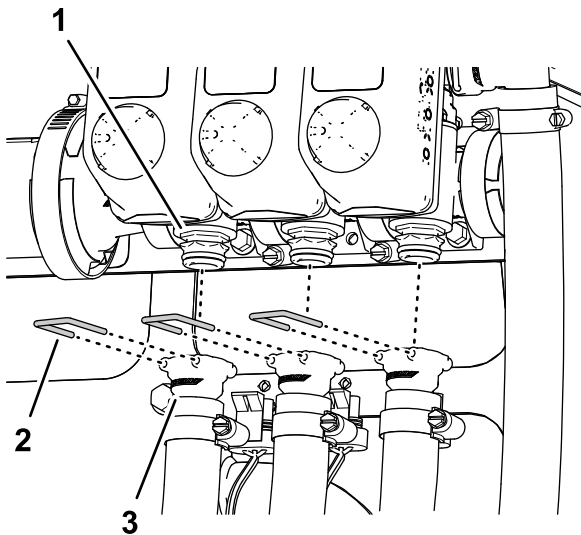

Figure 24
6. Remove and retain the retainers that secure the quick couplers of the left, center, and right supply hoses from the quick couplers if the section valves (Figure 24).